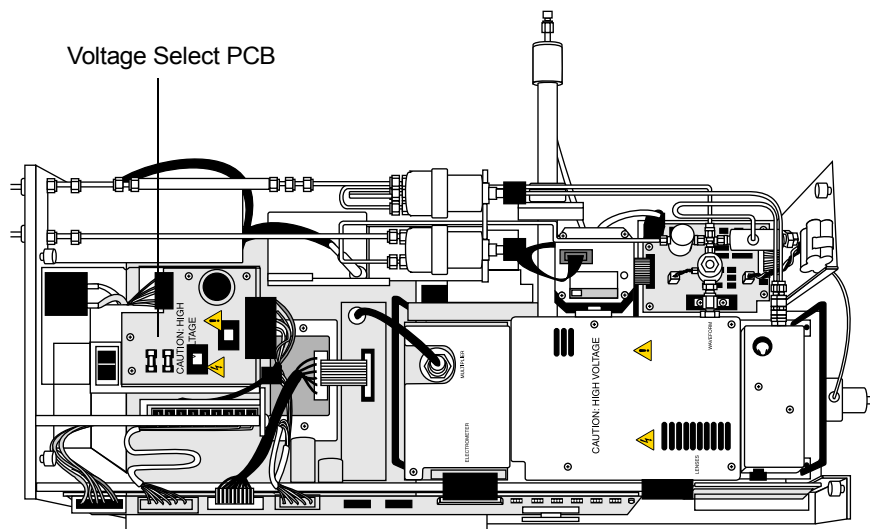

Figure 7-5. Top of GCQ Plus, Showing the Voltage Select PCB
3. Remove the cover of the Voltage Select PCB. Figure 7-5 on page 7-13 shows the location of the Vent Control PCB.